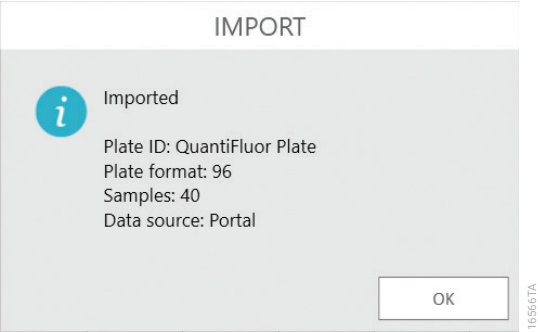

Figure 46. ‘Import’ screen. The ‘Import’ screen displays a summary of information retrieved from the Portal software.
7. Tap the **Import** button to import the plate map retrieved from the Portal software and open the Plate View tab. An ‘Import’ screen is shown, summarizing the results of the plate import including the Plate ID, plate format and number of samples retrieved (Figure 46). Tap **OK** to dismiss the ‘Import’ screen.